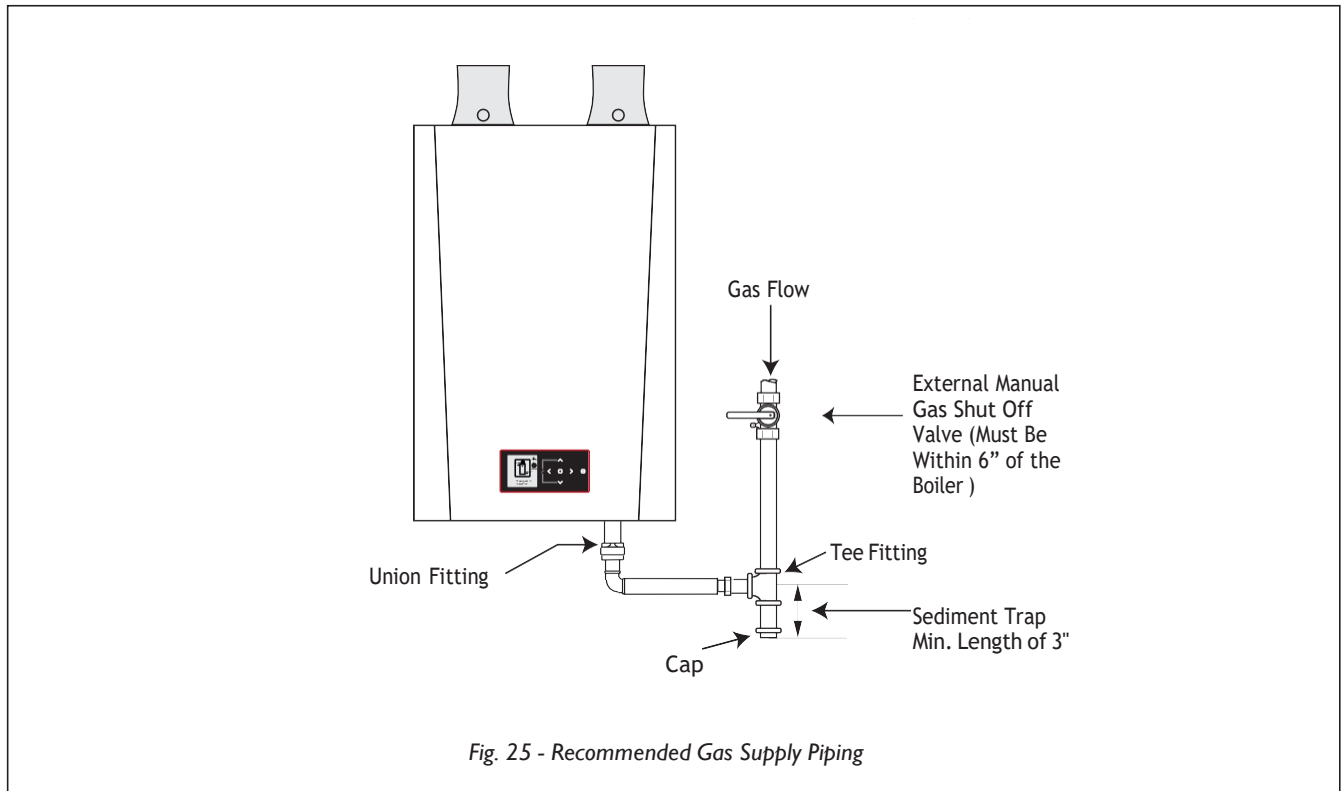

Fig. 25 - Recommended Gas Supply Piping
2. Install a manual shutoff valve in the gas supply piping as shown in Fig. 25 above. For installations in Canada, the installer must tag and identify the main shutoff valve.
3. Install a sediment trap (drip leg) on the gas supply line prior to connecting to the EXALT gas train as shown in Fig. 25 above.